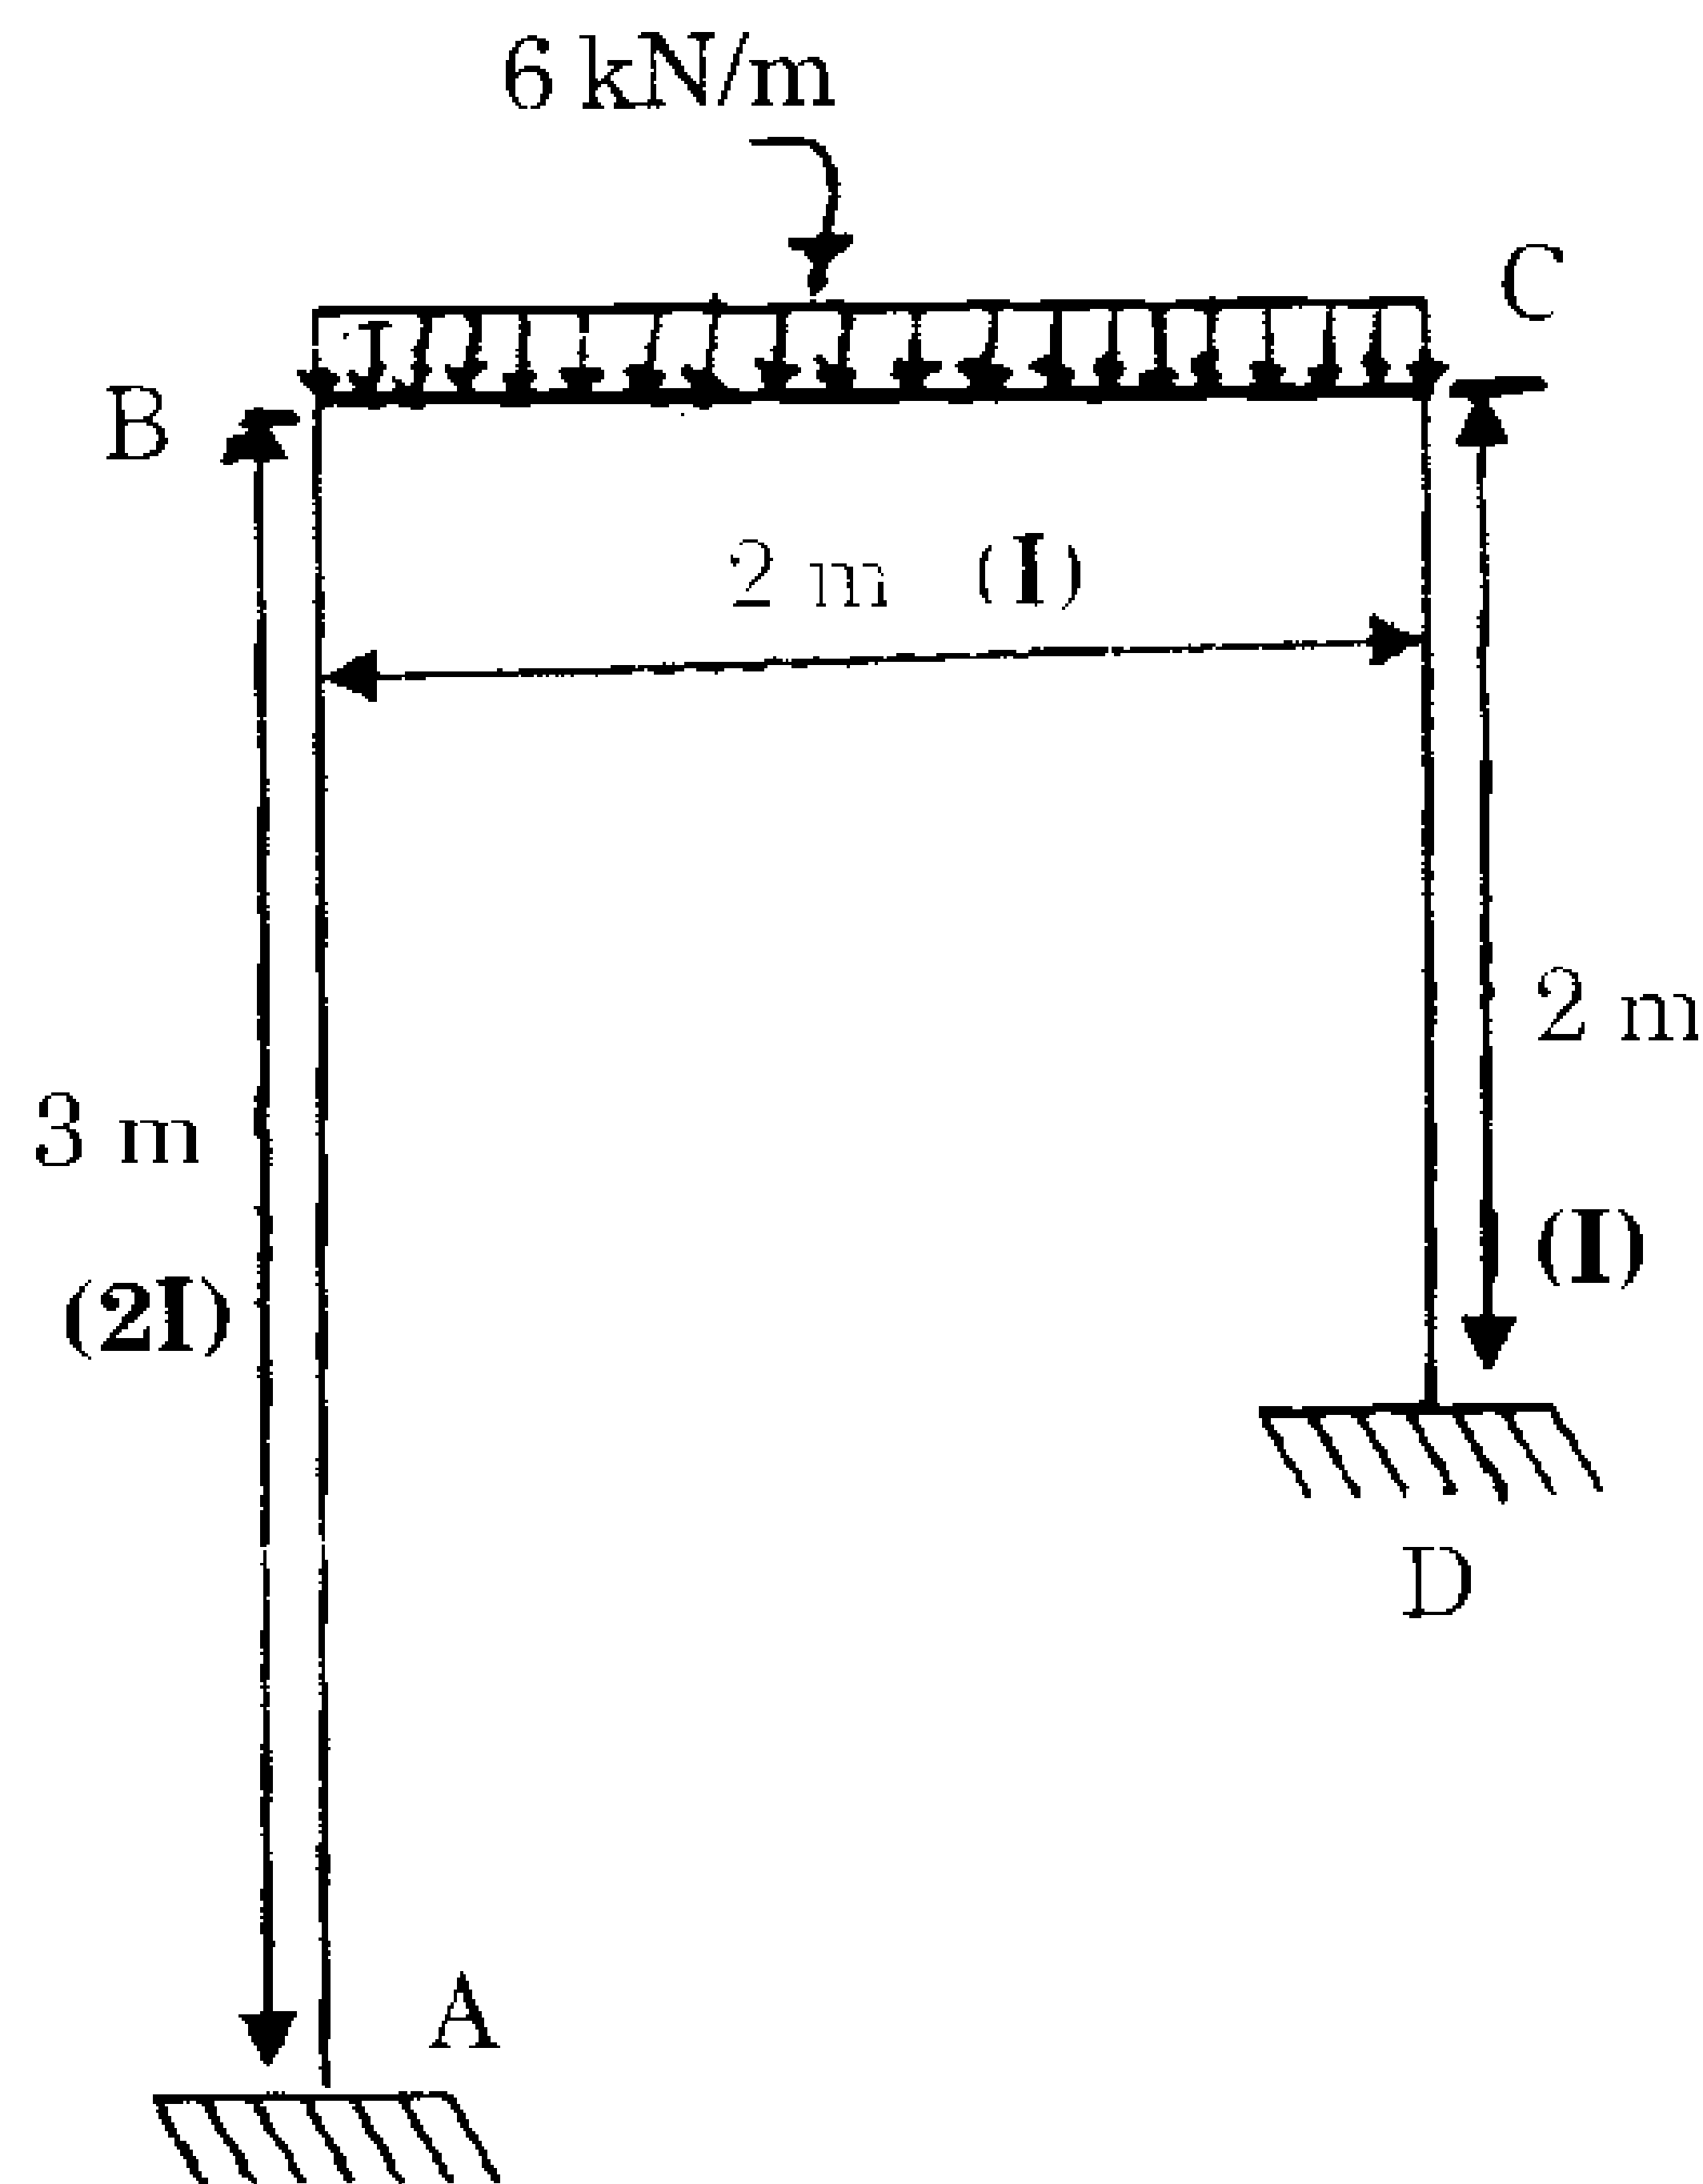

Fig. 4
- (b) Draw the bending moment diagram and sketch the deflected shape of the frame using moment distribution method for the frame shown below Fig. 4. The ends A and D are fixed and BC is loaded with U.D.L. of intensity 6 kN/m. The moment of inertia of different spans is shown in the parenthesis.